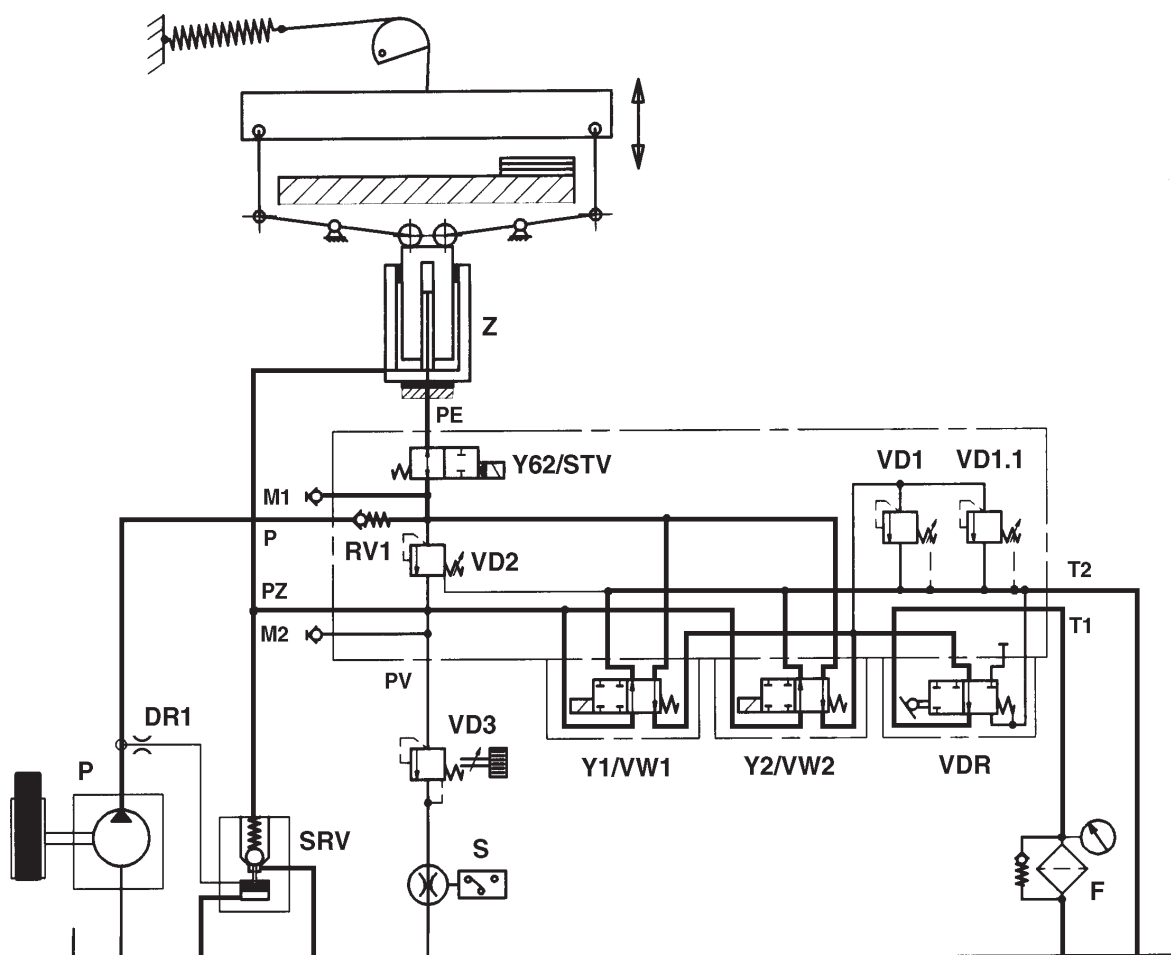

Fig. 34
(Fig.34)
- Check the pump pressure at M1 with a test pressure gauge when the oil is freely circulating, and when pre-clamping. For the values, refer to the Table (Fig. 34)
Check the pressure at M1 with a pressure gauge according to the Table (Fig. 34).